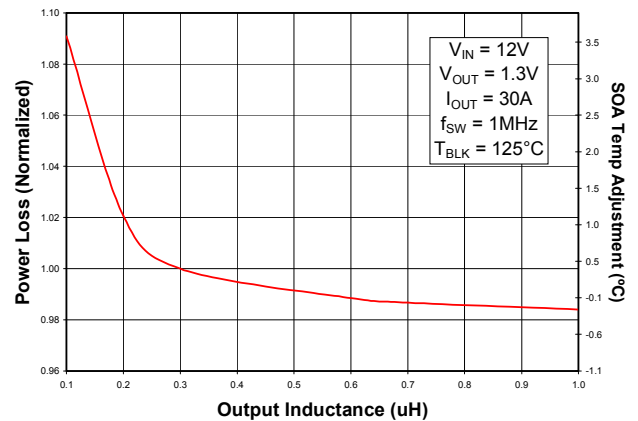

Fig. 6: Normalized Power Loss vs. Inductance
- (Fig. 6) Normalized power loss for inductor value ≈ 1.02
- (Fig. 6) Normalized SOA Temperature for inductor value $\approx 1.1^\circ\text{C}$